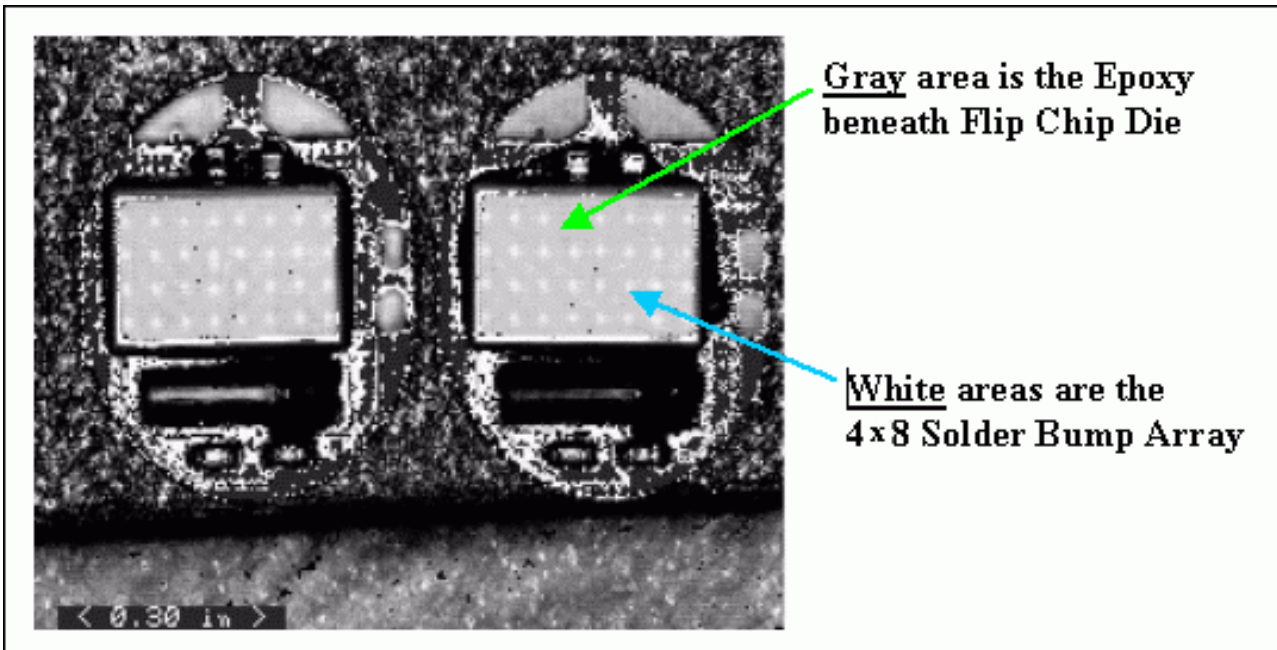

Figure 9. Example of vertical scanning acoustic microscopy (C-SAM) imaging.
- Vertical Scanning Acoustic Microscopy (C-SAM) Imaging may be utilized as an Analytical Method for Voids in Underfill Detection, as shown in **Figures 9** and **10**.